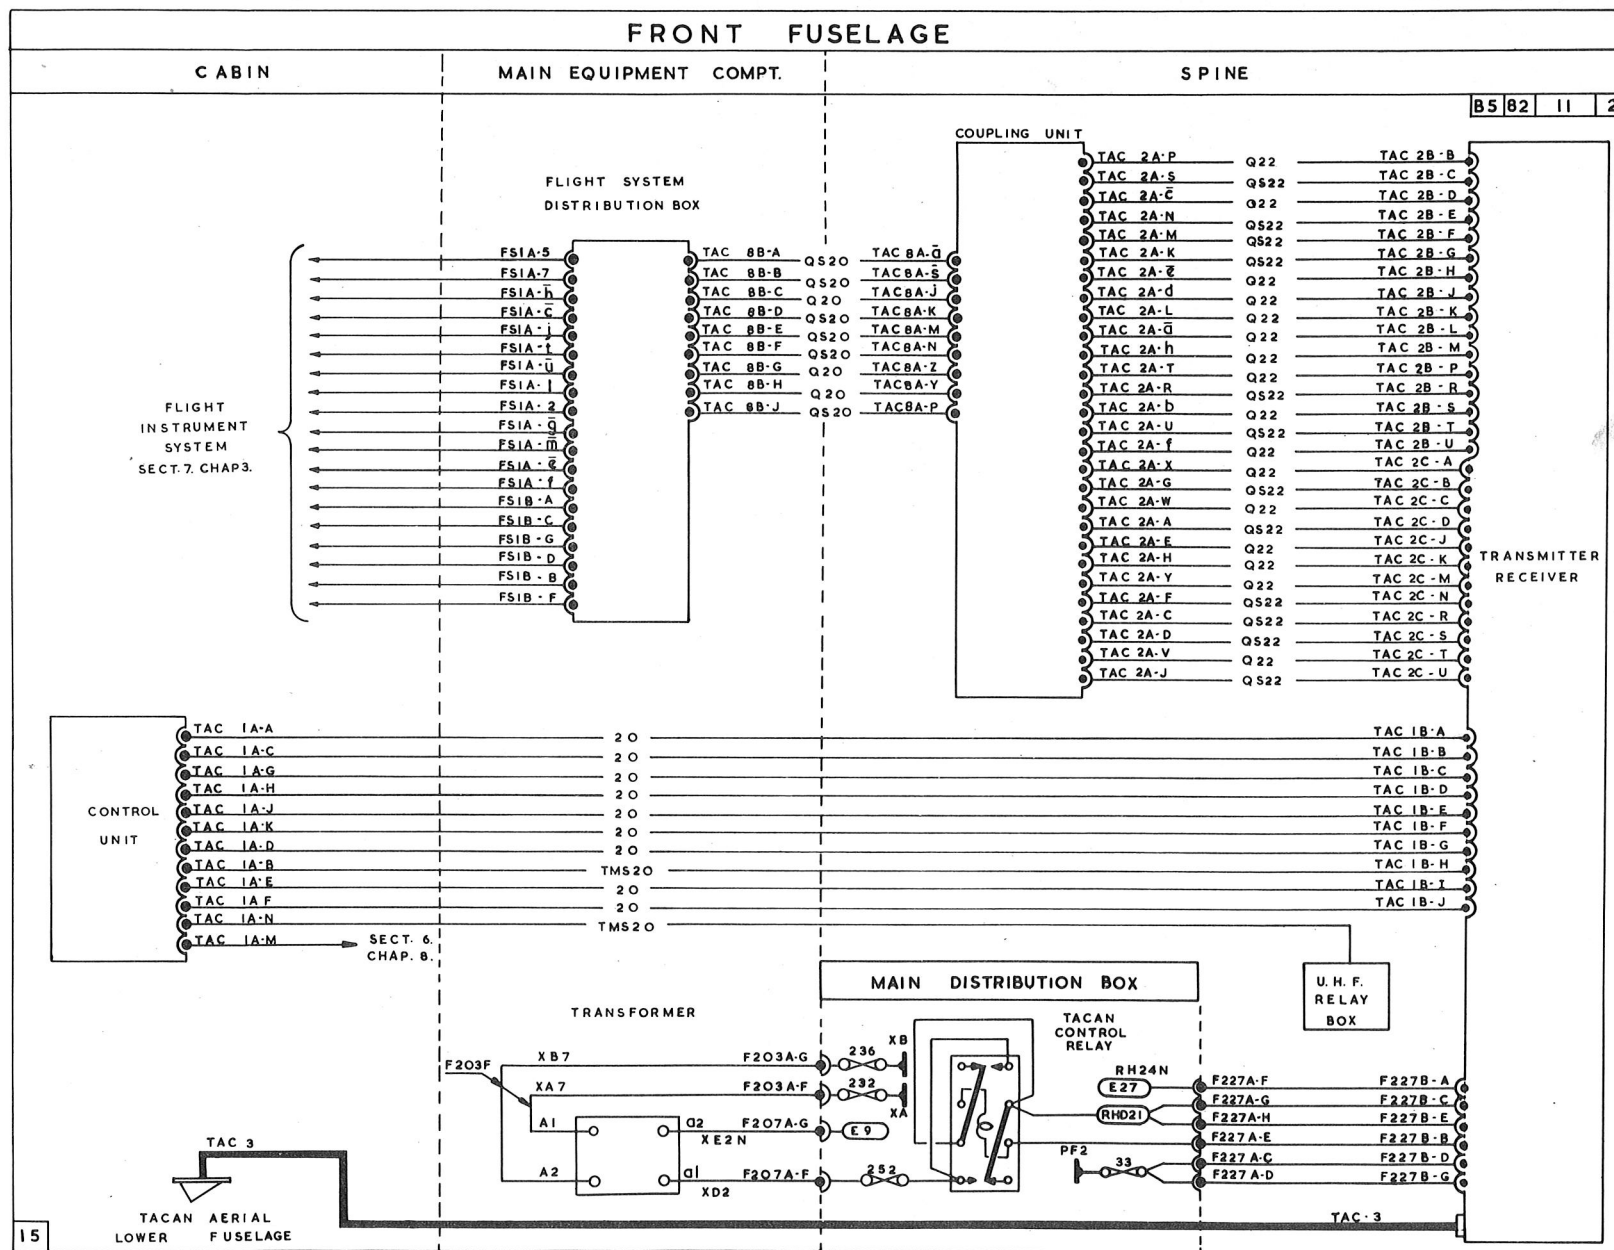

FIG. 2. TACAN INSTALLATION
13. Power supplies of 28-volt d.c. and 115-volt, single-phase a.c. are required for the Tacan system. These are taken from the normal aircraft electrical systems, their routing being shown on fig.2. The offset computer receives its supplies from the navigation amplifier of the integrated flight system (*Sect.7, Chap.3*).